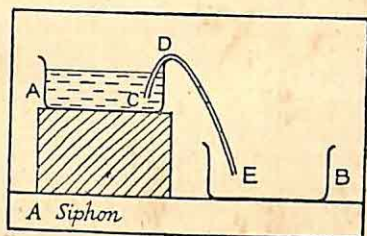

Fig. 9
19. Use atmospheric pressure to lift water from the bowl A (fig. 9) over the side of the bowl. Allow the water then to flow down into bowl B.